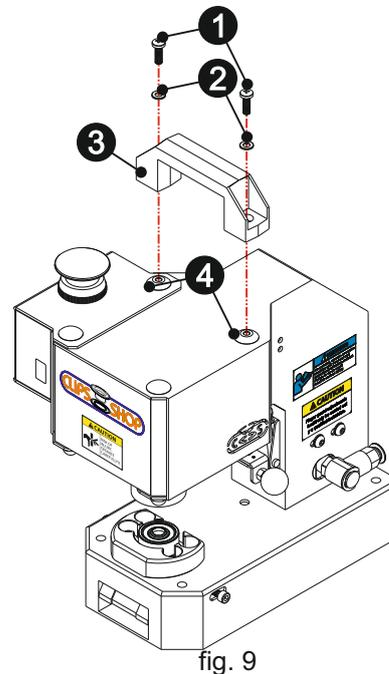

fig. 9
5) Poke the bolts ① through the washers ② then the hole of the handle ③ and fix them to the bolts with threaded head ④ by using a screwdriver as shown in (fig. 9).